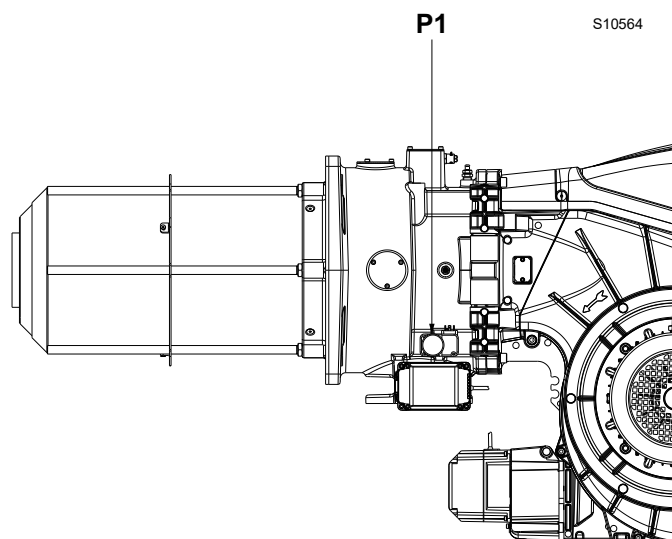

Fig. 26
- subtract the combustion chamber pressure from the gas pressure measured at test point P1 (Fig. 26).
To calculate the required gas pressure at test point P1 (Fig. 26), set the MAX output required from the burner operation: